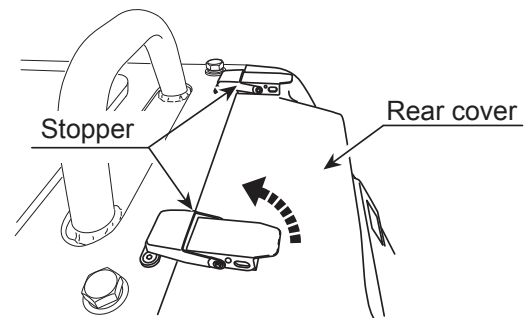

Figure 30. Opening Rear Cover
1. Unlatch the two stoppers at the top portion of the rear cover to open the rear cover (Figure 30).